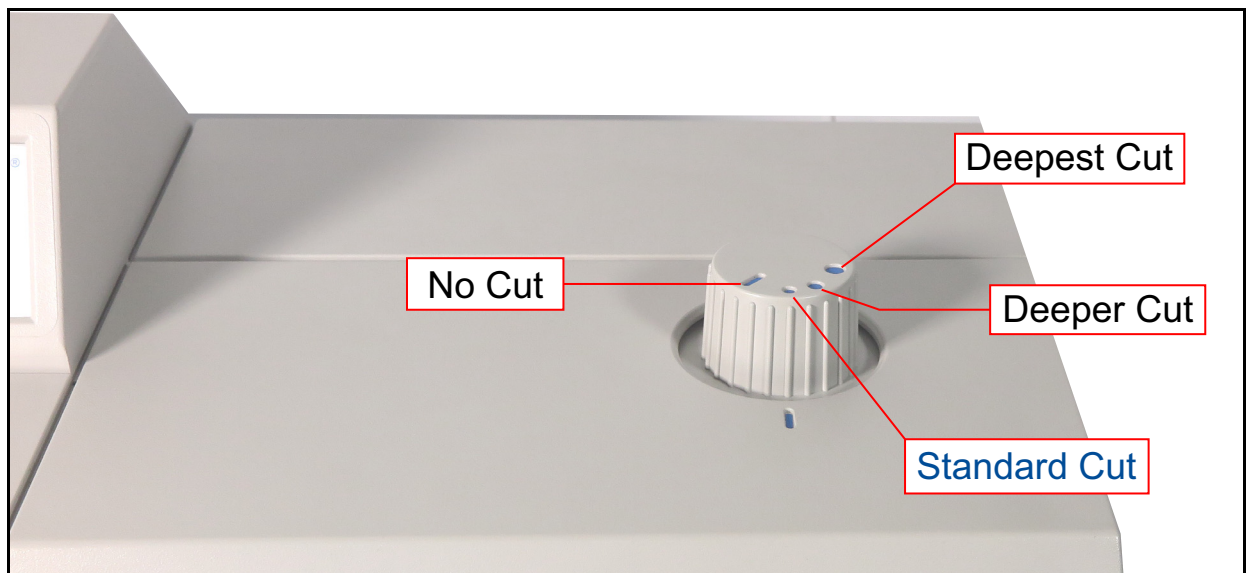

Figure 4-7: Standard Cut position
1. Set the Cut knob to the “**Standard Cut**” position (Figure 4-7). This position should always cut standard mail deep enough to remove the contents but **not cut** any of the contents. This position will be our reference. The other positions will all be adjusted when this is changed.